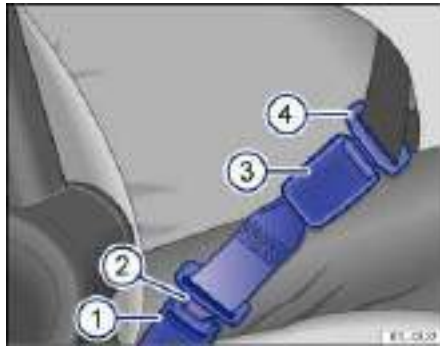

Fig. 68 A safety belt extender properly attached to the factory-installed safety belt.
Key to fig. 68:
- Insert the buckle tongue on the safety belt extender ⇒ fig. 68 \(2\) into the vehicle belt buckle for the seat where the safety belt extender is being used \(1\).